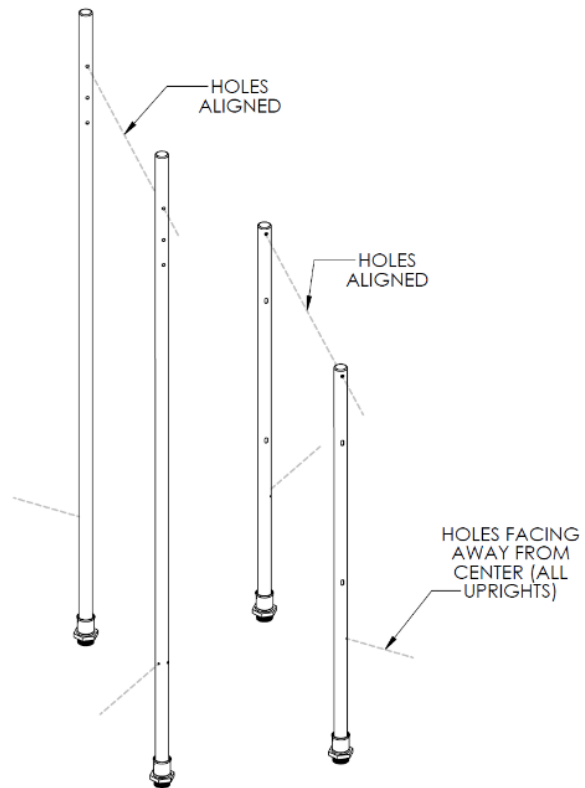

FIGURE 8
5. Place the two 38 1/4-inch uprights into the 2 frangible fittings that are CLOSEST to the part of the sky with the most daily sun. Note the orientation of these uprights: The capped ends are at the TOP of the uprights. The cross drilled holes on the top of the uprights should be in line with each other (**FIGURE 8**), AND ONE OF THE TWO SMALL HOLES NEAREST THE BOTTOM OF EACH UPRIGHT MUST ANGLE OUTWARD, AWAY FROM ALL THE OTHER UPRIGHTS.
Place the two 59-inch uprights into the 2 frangible fittings that are FARTHEST away from the part of the sky with the most daily sun. Note the orientation of these uprights: The capped ends are at the TOP of the uprights. The cross drilled holes on the top of the uprights should be in line with each other (**FIGURE 8**), AND ONE OF THE TWO SMALL HOLES NEAREST, THE BOTTOM OF EACH UPRIGHT MUST ANGLE OUTWARD, AWAY FROM ALL THE OTHER UPRIGHTS (**FIGURE 8**).